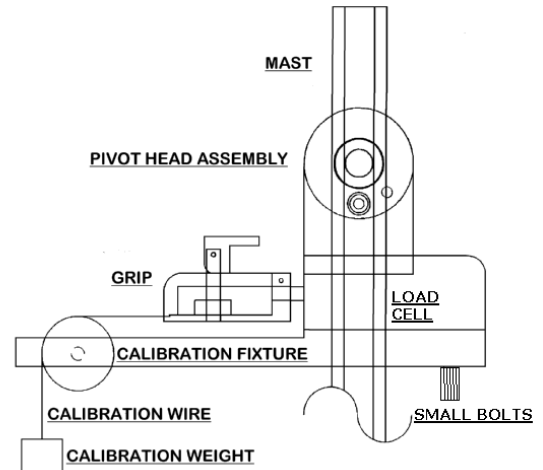

Figure 3 – Calibration Setup
It is important to calibrate the load cell to ensure that reliable data will be gathered. A calibration procedure is built into the software of the AR-1000. This procedure should be followed upon first use of the AR-1000 and whenever necessary thereafter. The following is the step-by-step procedure for calibrating the load cell. (See Figure 3 – Calibration Setup)
3. Attach the calibration fixture onto the bottom of the load cell mount using the two small bolts. (See Figure 3 – Calibration Setup)